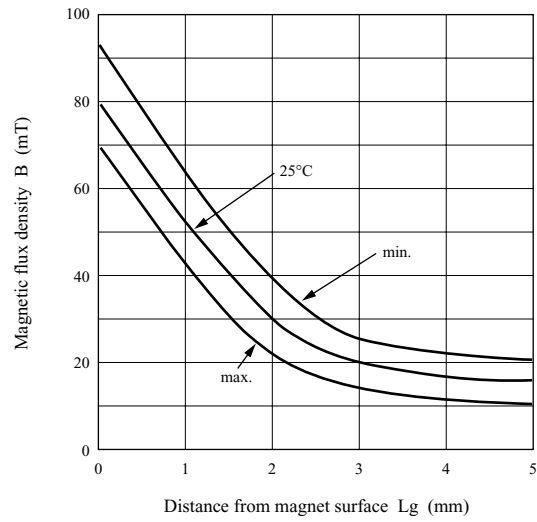

Figure 32
- 3) Take the temperature characteristics of above 1) and 2). (figure 32)